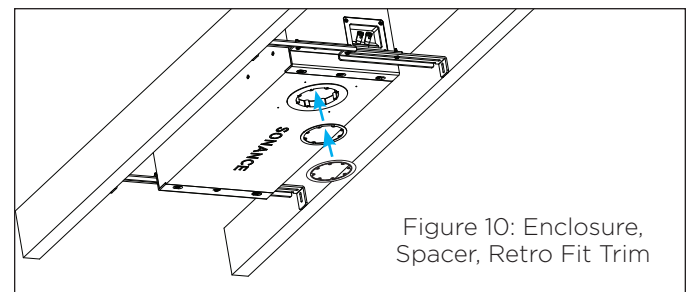

Figure 10: Enclosure, Spacer, Retro Fit Trim
4. All trims accommodate 0.5" (12.7mm) surface thickness. If the surface exceeds 0.5" thickness, install the appropriate spacers between the trim kit and enclosure to accommodate the surface depth. James SA3 Spacers are available in 1/8" (3.2mm) and 3/8" (9.5mm) and can be stacked as required to achieve the correct depth of the trim to the surface (SA3-SP-0.125 and SA3-SP-0.375). Spacers can also be custom made to accommodate up to 6" (152mm) of surface thickness (see Figure 10).